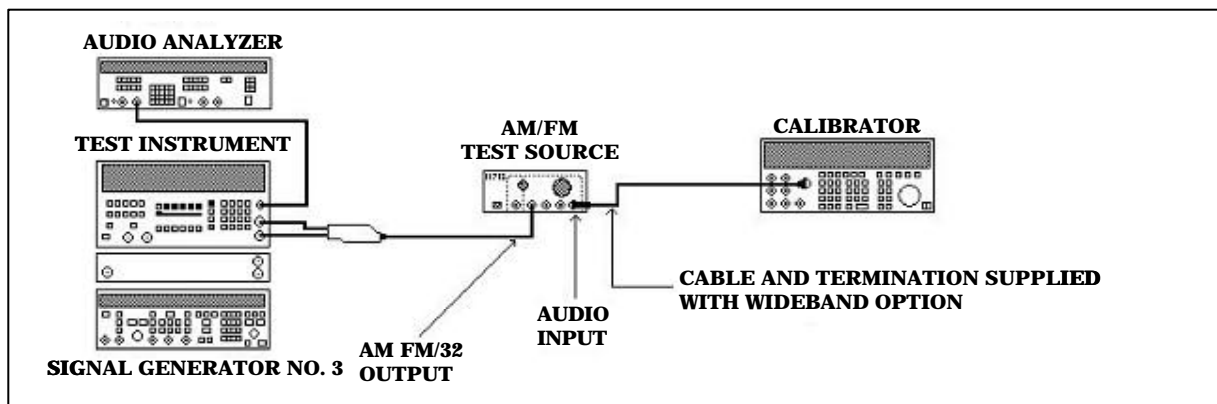

Figure 1. AM distortion
- (10) Adjust AM/FM test source **CARRIER FREQUENCY TUNE** control for a TI indication of approximately 12.5 MHz.
- (11) Press TI keys as listed in (a) through (f) below:
- (12) If TI indication is not = 0.01%, perform **b** below.
- (13) Connect equipment as shown in figure 1.